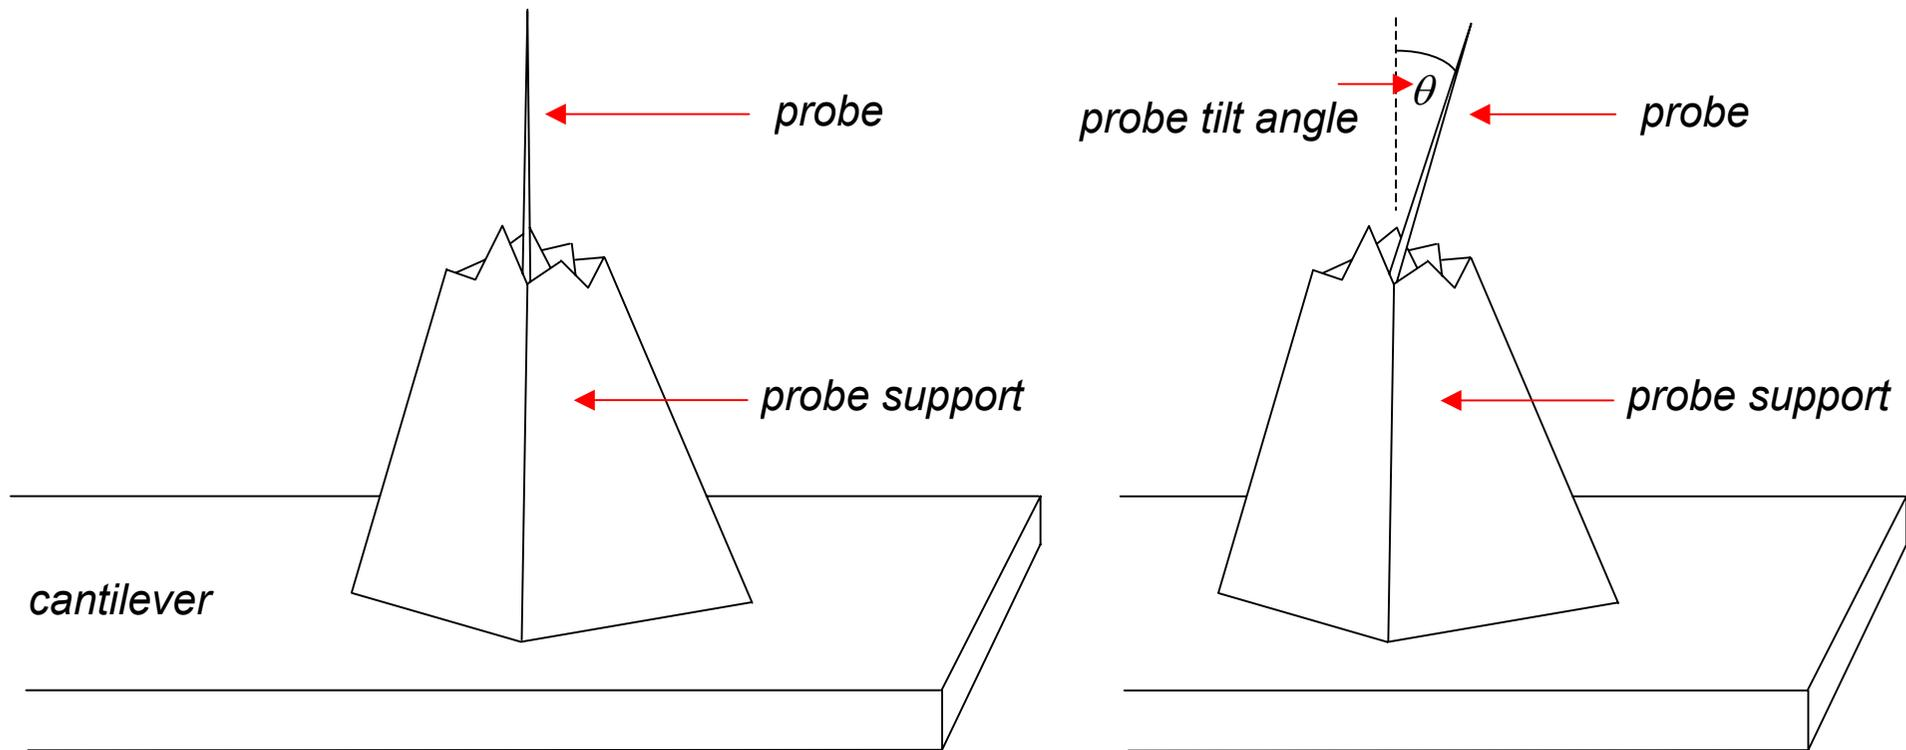

Fig 4 – The complete probe assembly
- Fig 4 shows the probe assembly and chip carrier.